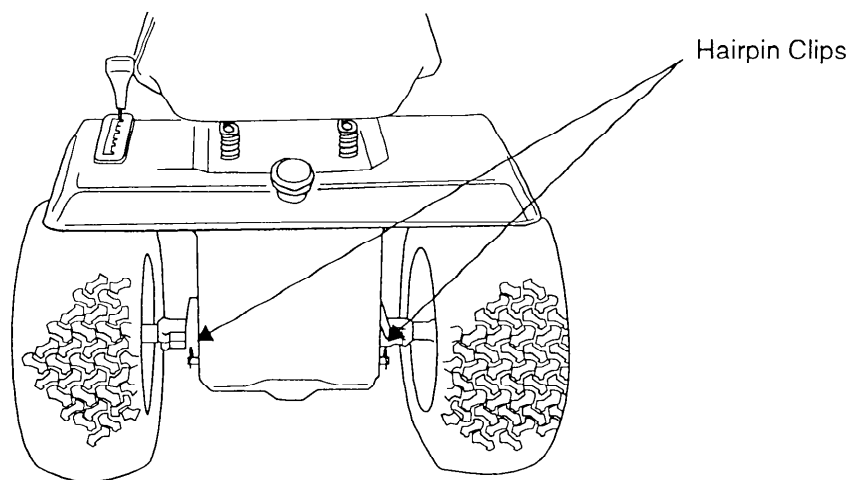

Figure 2
- Remove the two hairpin clips from the shaft on the rear of your tractor. See Figure 2.